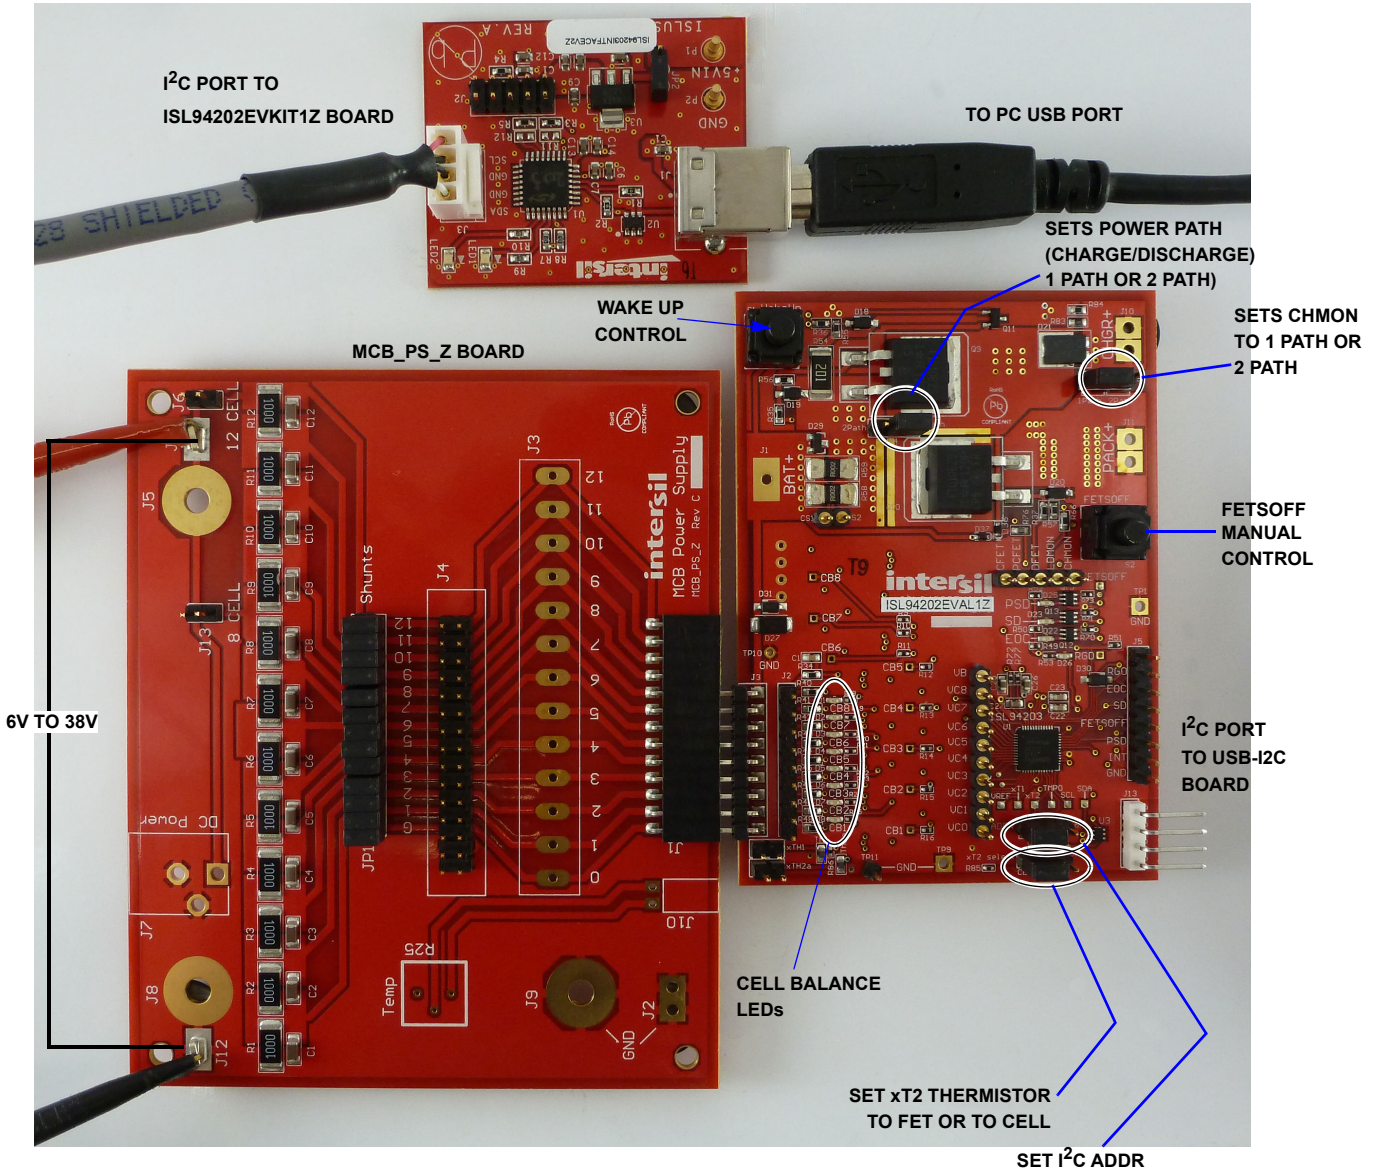

FIGURE 4. ISL94202EVKIT1Z BOARD SETUP
Step 5: Connect the ISL94202 board directly to the MCB_PS_Z board at connector J1. Make sure the board is connected on the ground side of J1 (see Figure 4).